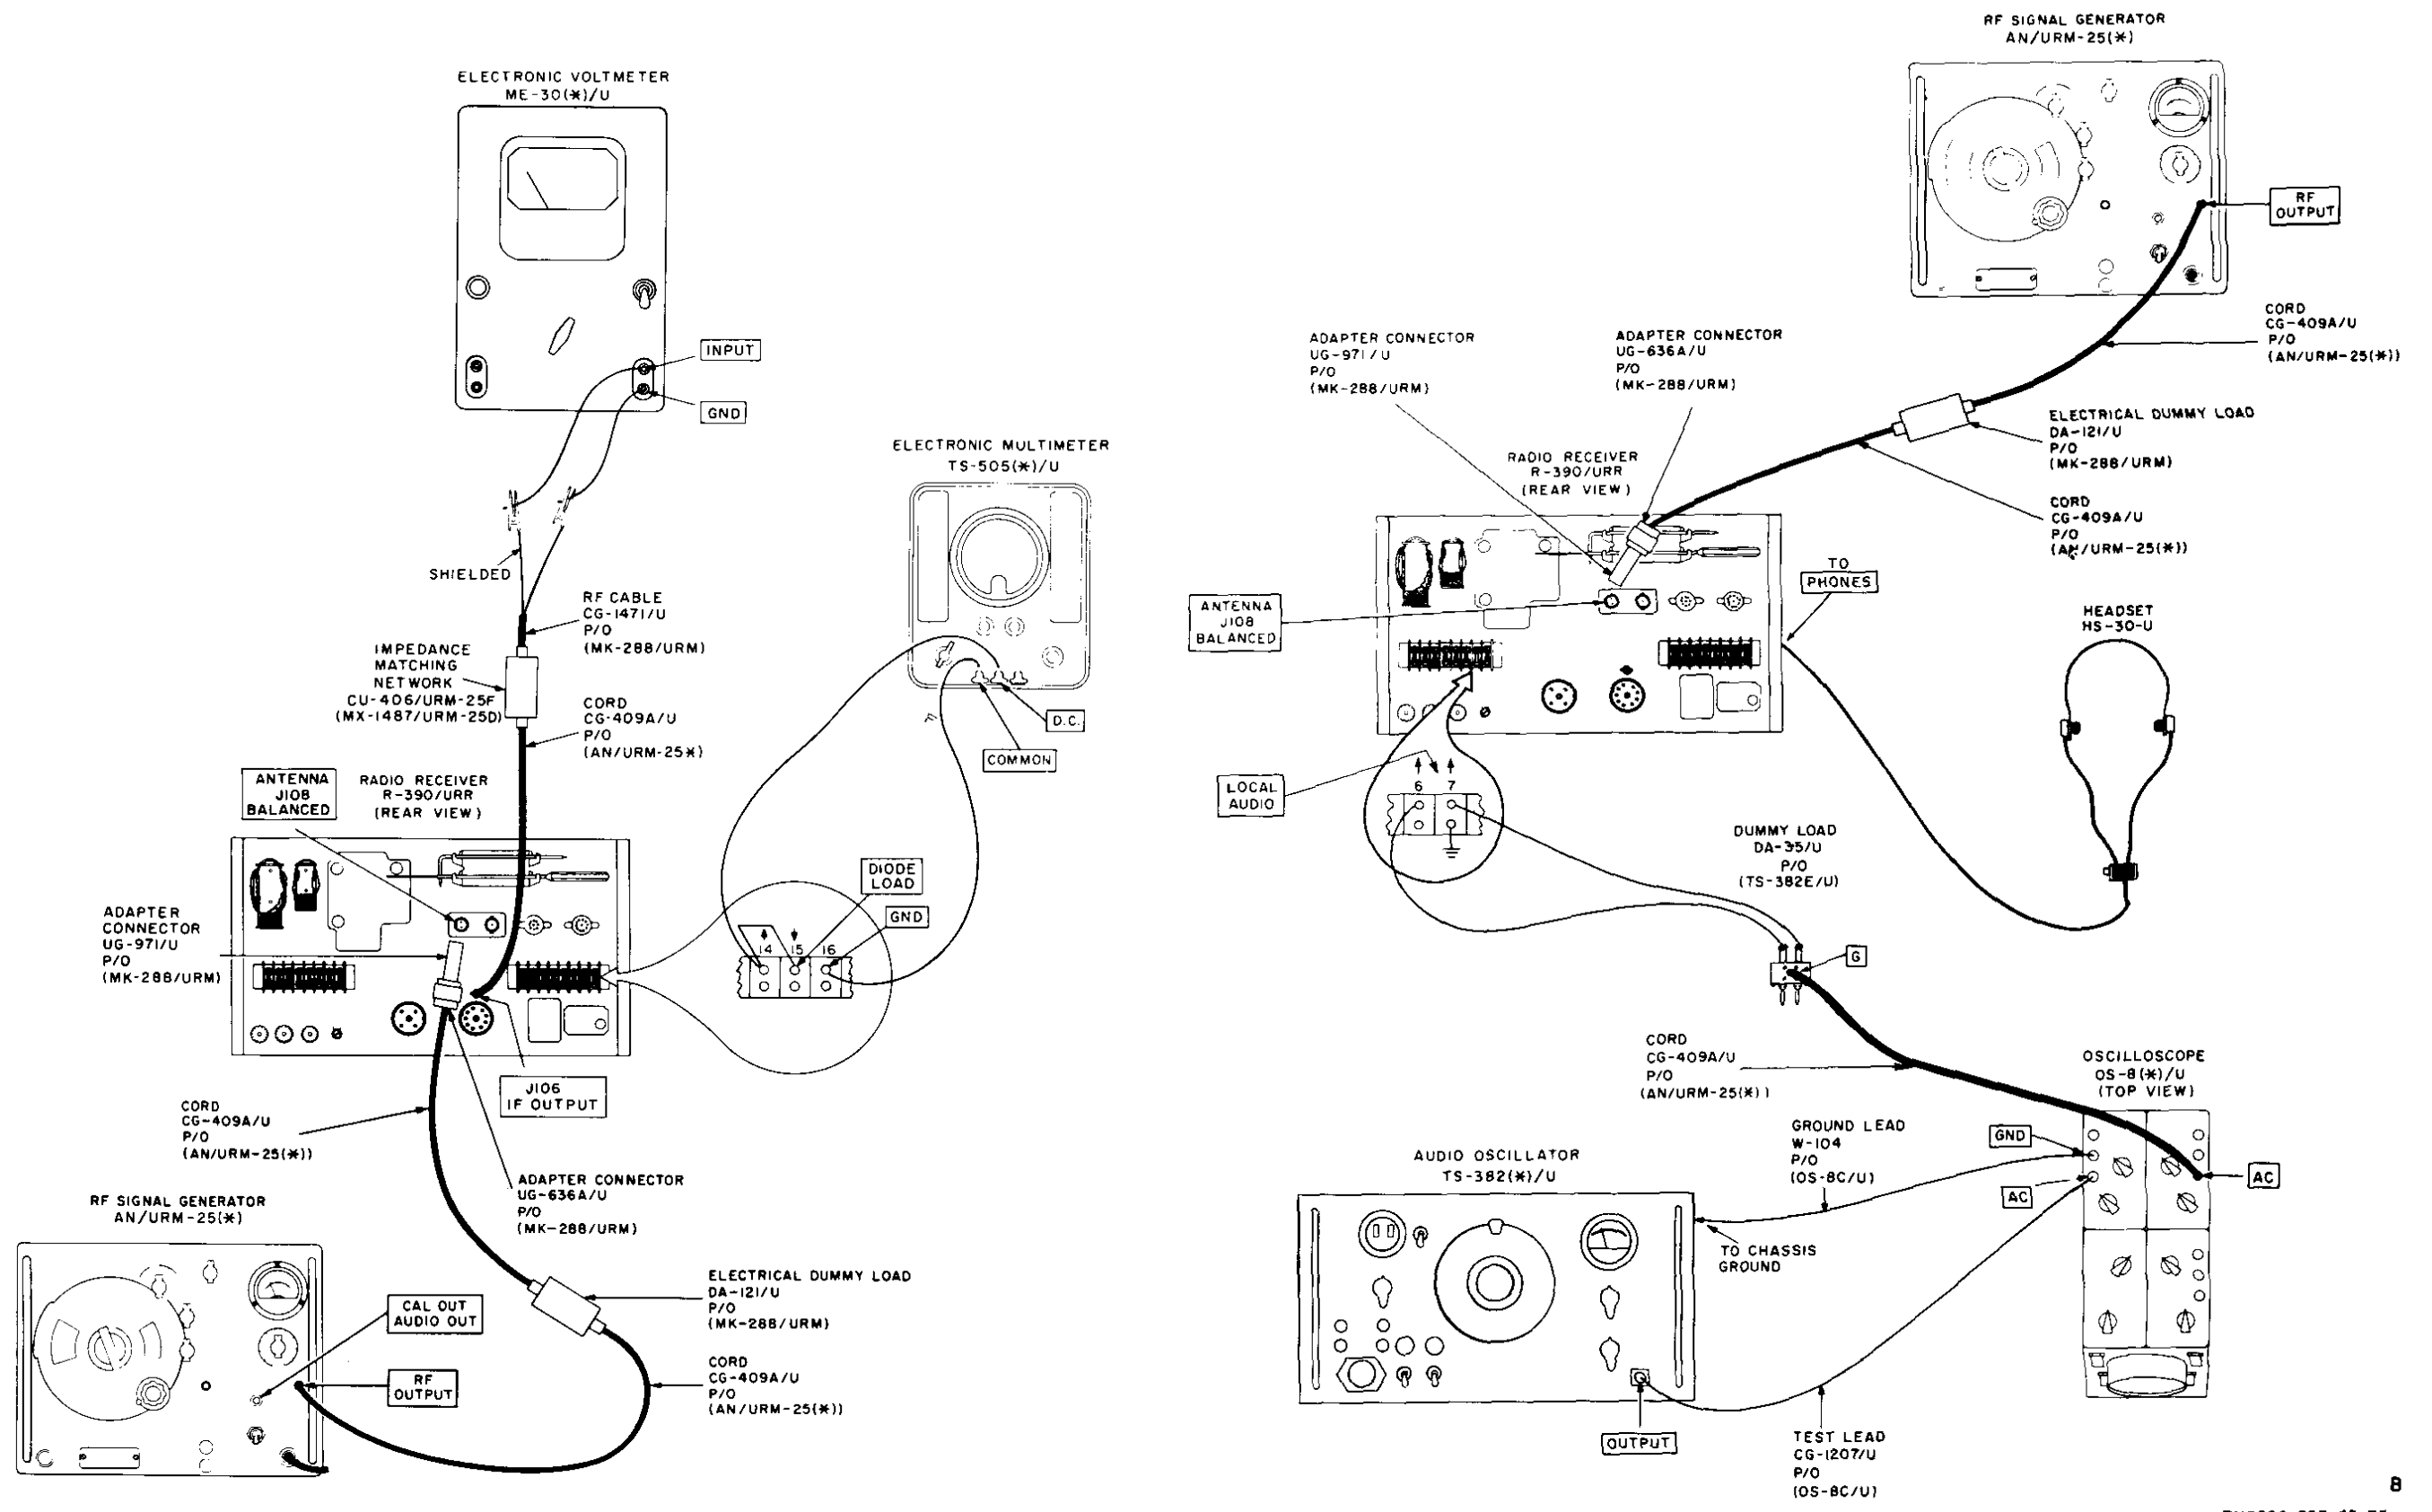

Figure 48. If. output and bfo calibration test setup.
(fig. 48)
Connect the equipment as shown in A, figure 48. Turn on all test equipment and allow it to warm up for 15 minutes.
| 2        | Same as step No. 1 except:TS-382(*)/UOUTPUT CONTROL: Maximum counterclockwiseOUTPUT MULTIPLIER: X .1 VOLTS(ATTENUATOR: .1)FREQUENCY MULTIPLIER: X100(RANGE: X100)Main tuning dial: 30OFF-INT: Clockwise (IN TENSITY: on)VERNIER FREQUENCY: 20 (SWEEP VERNIER: 20)COARSE FREQUENCY: 2900/17.5 KC(SWEEP RANGE: 2 KC-10 KC)HOR. ATTEN. (C model only): SWEEPVERT. GAIN: 60 (Y GAIN: 60)HOR. GAIN: 30 (X GAIN: 30)VERT. ATTEN.: 100(VERT. ATTEN.: AC 100.1)SYNC SELECTOR: INT.LOCKING: 0(SYNC AMPLITUDE: 0) | Same as step No. 1 except:LOCAL GAIN 3   | a. Connect the equipment as shown in B. figure 48.b. Adjust the AN/URM-25F SET RF OUTPUT control (carrier control) for a full-scale indication on the meter (10).c. Turn the receiver BFO switch to ON and adjust the KILOCYCLE CHANGE control for a zero beat in the HS-30-U.d. Adjust all controls on the front panel of the oscilloscope for a clear sharply defined centered trace.e. Set the BFO PITCH control to -3 and adjust the OS-8 (*)/U VERNIER FREQUENCY (SWEEP VERNIER) control unit I sine-wave cycle is obtained on the scope.f. Set OS-8(*)/U HOR. ATTEN. (OS-8C/U only) to 1.g. Adjust the TS-382(*)/U OUTPUT CONTROL (OUTPUT LEVEL control) clockwise until the meter indicates 1. 0. Adjust the TS-382(*)/U main tuning dial until a circular pattern is obtained on the OS-8(*)/U. Note and record the setting of the main tuning dial.h. Return the OS-8(*)/U and TS-382(*)/U control settings to the original positions indicated in the Test equipment control settings column and repeat the procedure given in e through g above for a receiver BFO PITCH control setting of +3.i. Turn the receiver BANDWIDTH switch to .1, the FUNCTION switch to CAL and the BFO switch to OFF. Adjust the KILOCYCLE CHANGE control for a 01500 indication on the frequency-indicator dial.j. Adjust the KILOCYCLE CHANGE and ANT. TRIM controls for a maximum indication on the receiver CARRIER LEVEL meter.k. Turn the BFO switch to ON and adjust the BFO PITCH control for a zero beat in the HS-30-U headset. Note the setting of the BFO PITCH control. | d.e.f.g. The TS-382(*)/U main tuning dial setting should be between 24 and 36.h. Same as g above.i. None.j. None.k. BFO PITCH control should be at zero setting when the zero beat is obtained. |